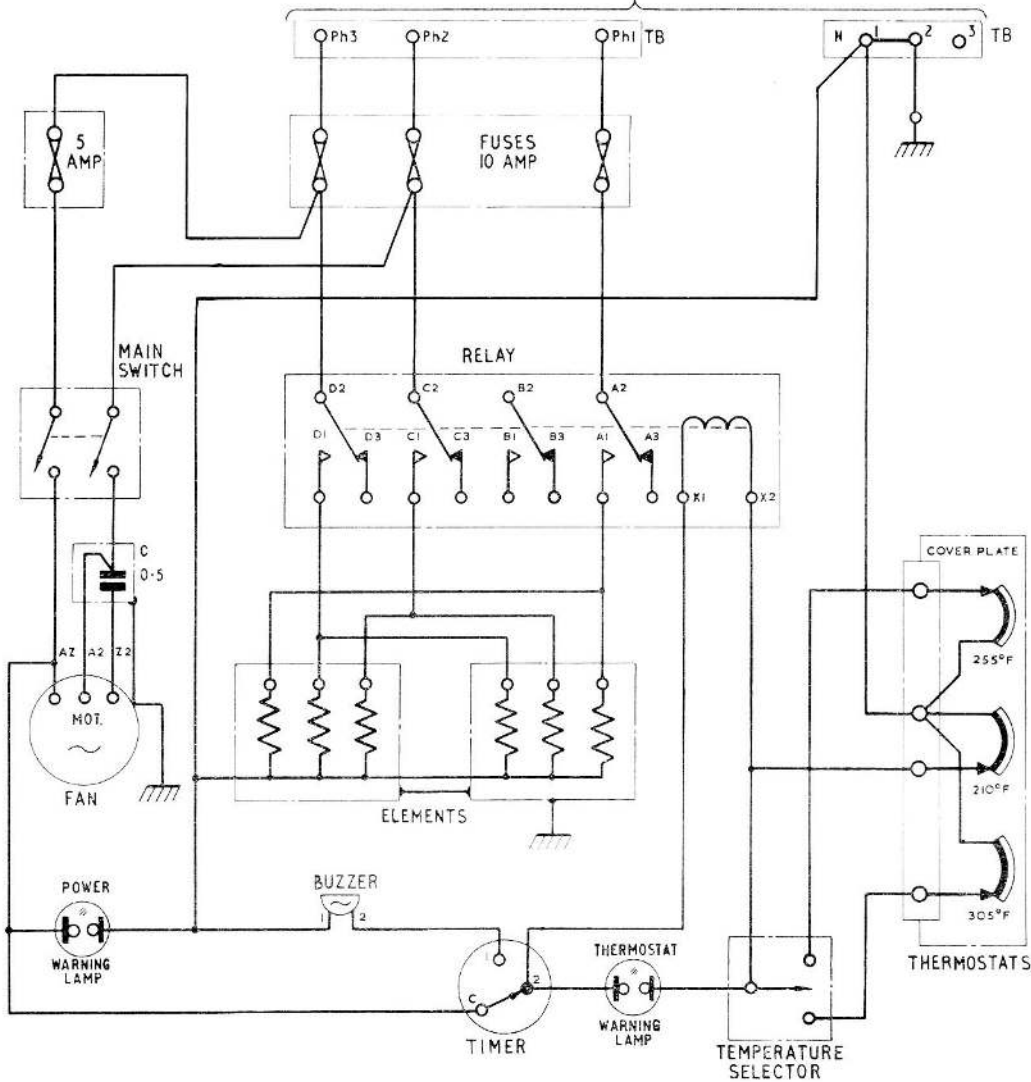

Fig. 3. Circuit diagram
5. Referring to fig. 3, with the timer set to the required time, the temperature switch set to the required temperature, and the MAIN switch set to ON, the supply is routed via phases 2 and 3 through the motor fuse and double pole MAIN switch to the motor and motor capacitor.